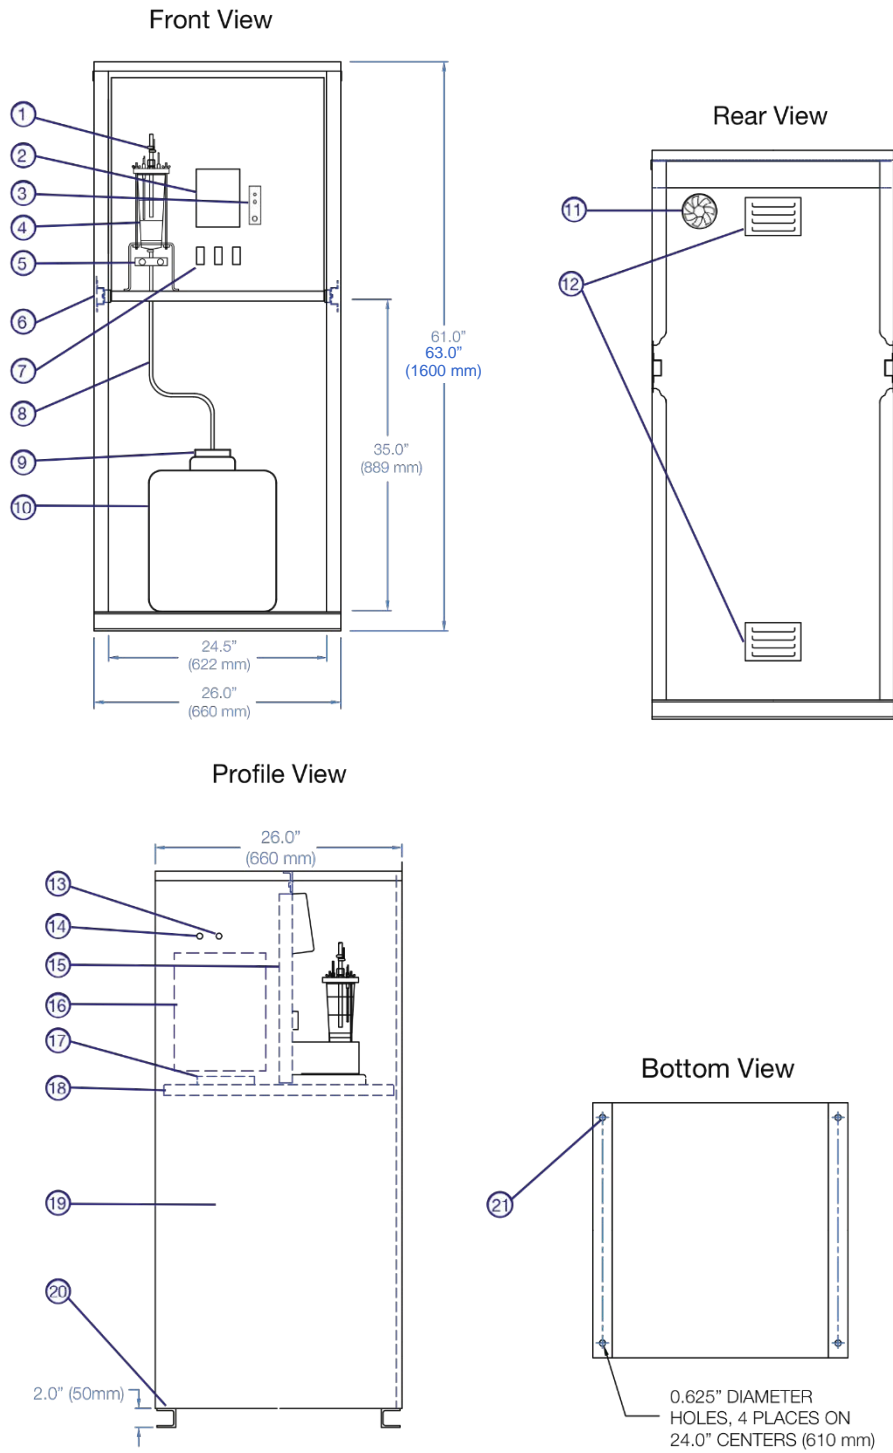

FIGURE 5-1. Diagrams of the BVS4300 basic unit
1. Remove four retaining bolts (1/4–20) found across the top of the instrument panel (18 in FIGURE 5-1).